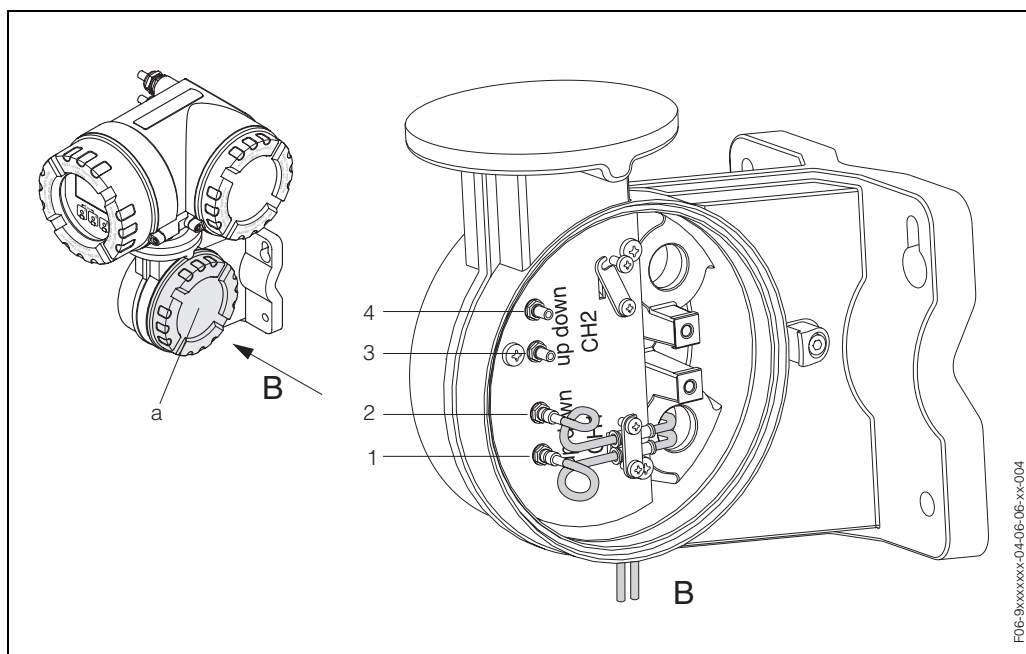

Fig. 4: Connecting the two possible measuring systems (one or two-channel)
1. Transmitter: remove cover (a, Fig. 4) from the connection compartment.
6. Plug in the sensor cable connectors analogue to the arrangement in Fig. 4.